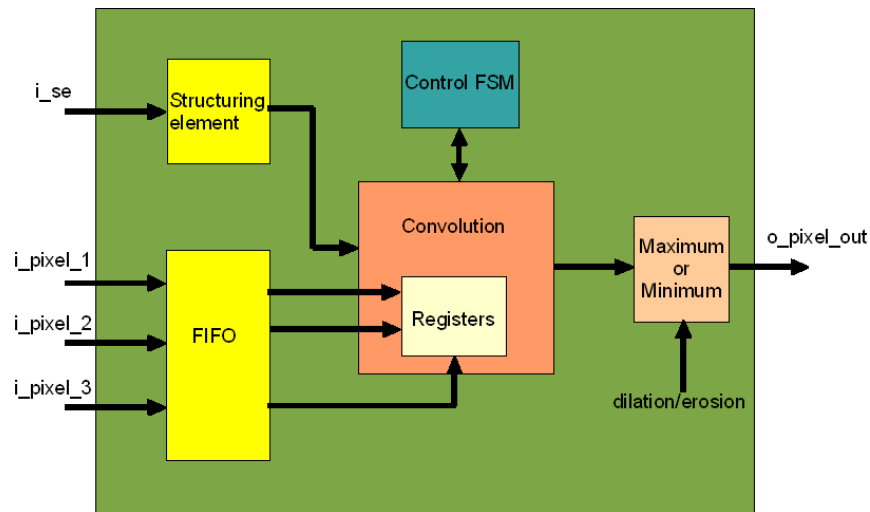

Figure 2: Dilation/Erosion core Architecture Diagram.
- Fig.2. represents the architectural diagram of the Dilation/Erosion core.